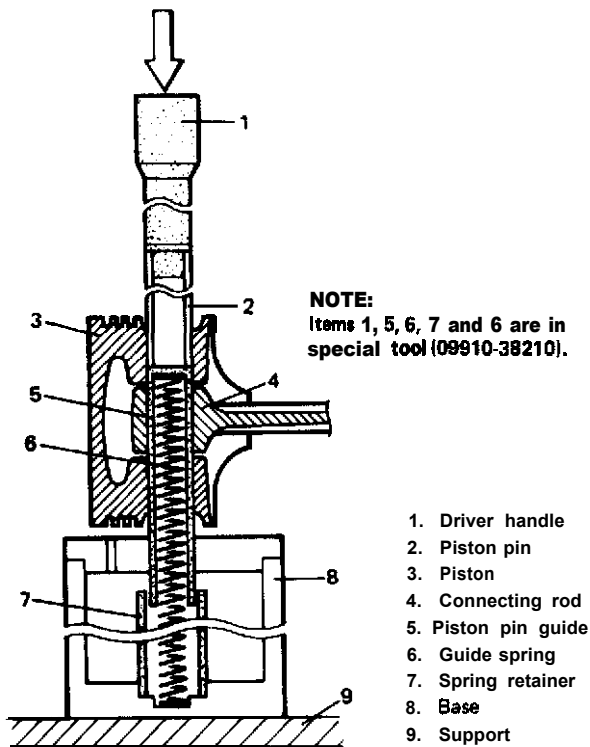

Fig. 3-6-14 Installing piston pin
- ② Place piston on piston pin remover and installer (special tool) as indicated in Fig. 3-6-13, and press piston pin into piston and connecting rod (Fig. 3-6-14).